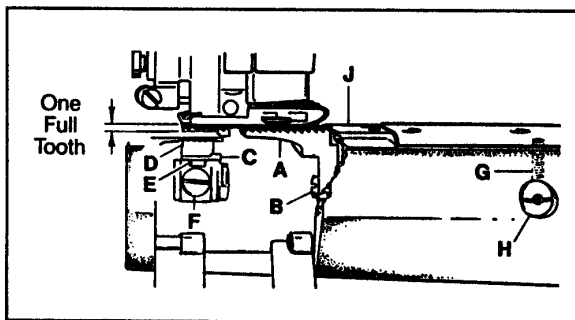

FIG. 17
Install the differential feed dog (A, Fig. 17) with screw (B). Attach rear needle guard (C) to main feed dog (D), pushing in fully to the rear and tighten screw (E). Install main feed dog with screw (F).